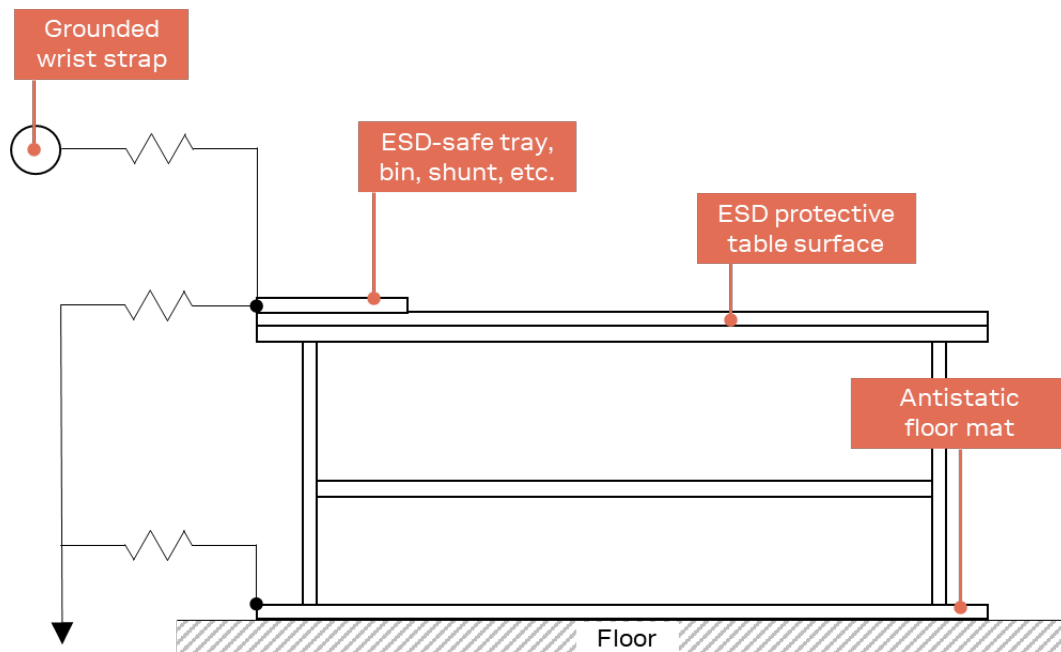

Figure 41: Standard workstation setup for safe handling of ESD-sensitive devices
- Open the package within an ESD-protected area (EPA), as in Figure 41.